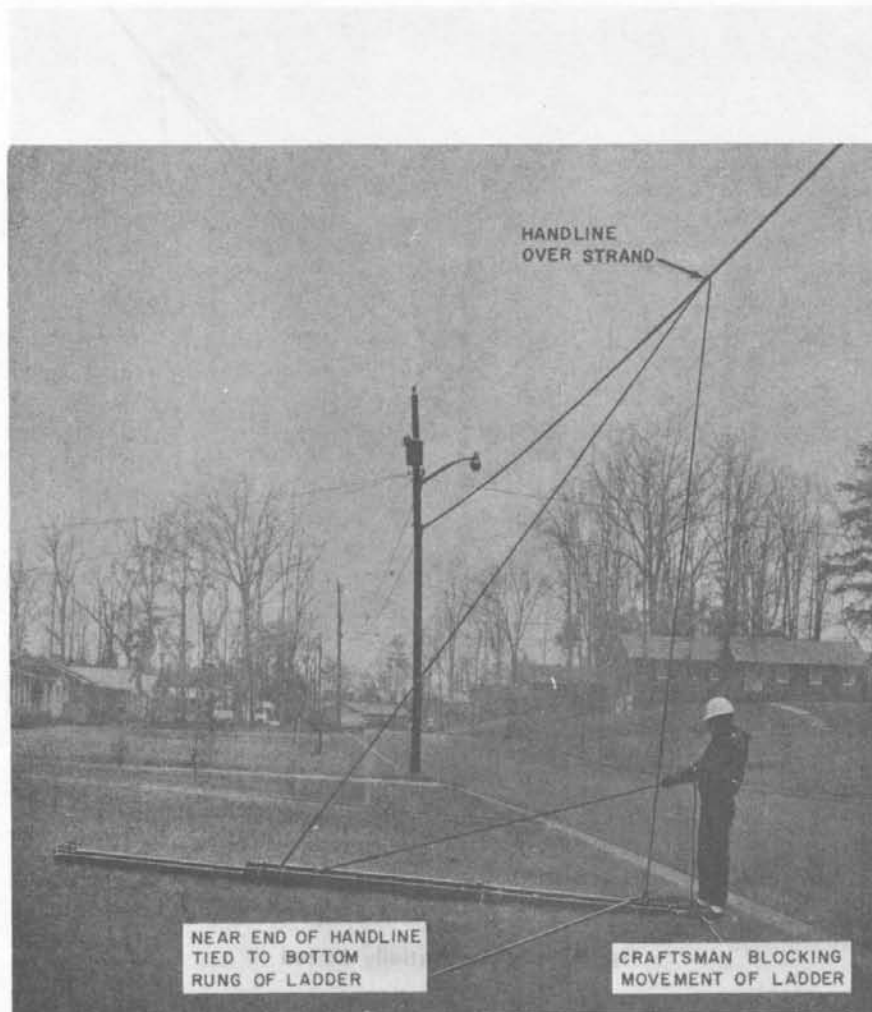

Fig. 20—Preparing to Raise Extension Ladder
7.06 Carry the free end of the handline to the base of the ladder and stand with the feet on each side rail to block movement of the ladder base to the rear (Fig. 20).